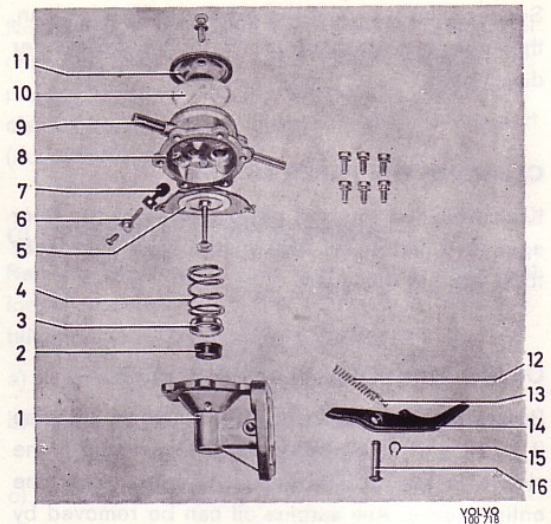

Fig. 102. Fuel pump, type II
2. Remove one circlip (15, Fig. 102) from the lever pin (16). Press out the pin. Pull out the lever and spring (14) and (12).
3. Remove the diaphragm (5) with spring, guide (3) and rubber seal (2). The spring can be removed after the rubber seal has been pulled up over the nylon washer.
4. Unscrew the screw on the underside of the upper part, remove the stop arm (6) and spring valve (7). The inlet valve cannot be removed.